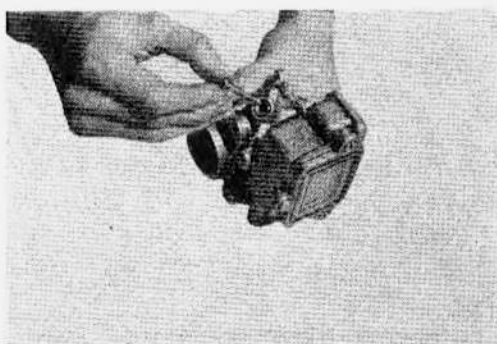

Figure 129
(17) Remove nut plug.
(18) Take out high speed nozzle (Fig. 129).